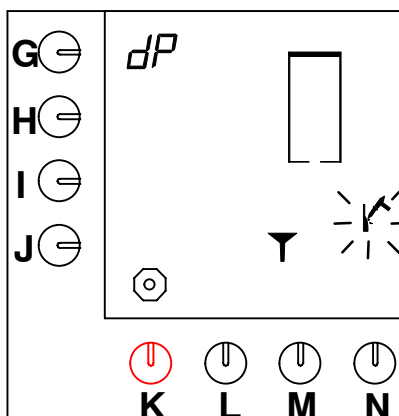

Fig. 23 Hot water system asks for descaler
- A signal sounds, the hammer symbol flashes and a funnel appears on the display (fig. 23 ).